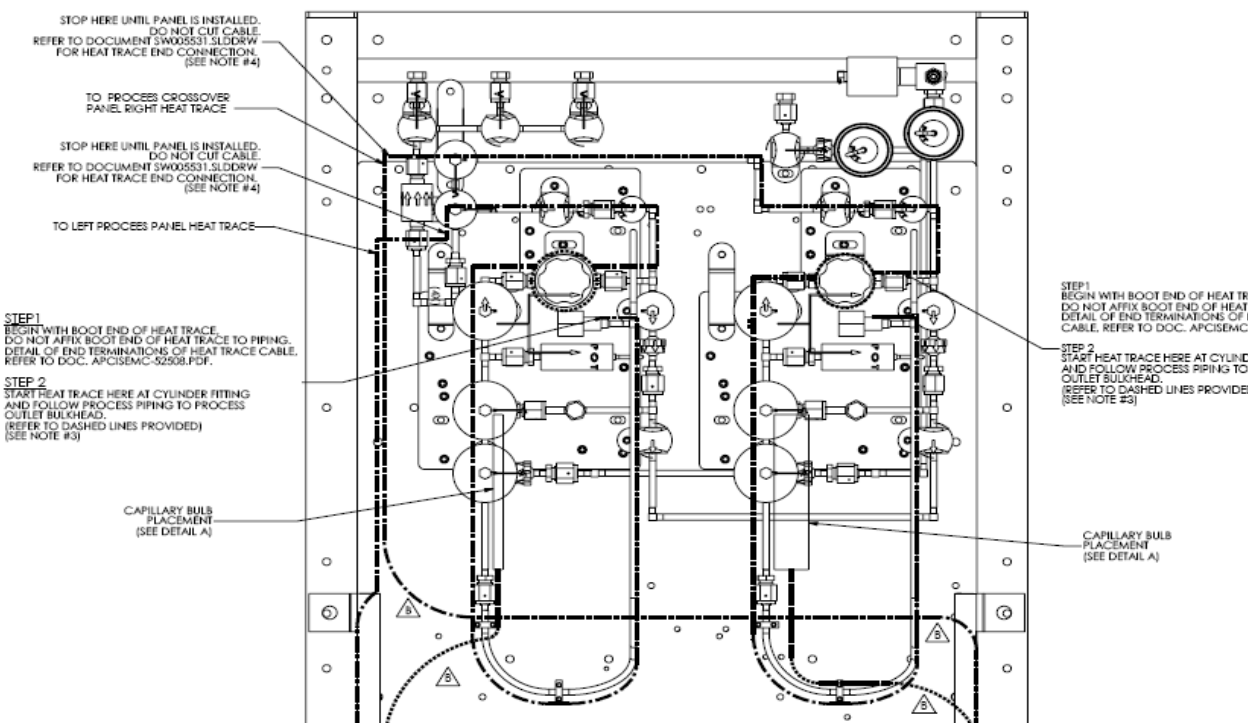

FIGURE 1
2. Refer to Figure 1 to understand path of heat trace cable and location of capillary bulb. Heat trace is only required to touch one side of each component unless otherwise noted. The heat trace must make good contact with the tubing and components to maximize heat transfer. Heat trace should coil one time around regulator bodies. Allow heat trace to contact the top of tubing
standoffs. Service loops around mechanical points such as VCR and threaded connections are required. Do not cover any weep holes on valves or regulators. Continue installing heat trace along process tubing towards the process outlet bulkhead following the dotted lines for either the right or left process panel per Figure 1 below.
3. Stop routing the heat trace per as shown in Figure 1. Do not cut cable.
4. If using legacy United Electric heat trace controller, install the capillary bulb in the location per Figure 1. Install it 180 degree opposite the heat trace cable. Bend as needed to fit to process line. See Photo below for detail.